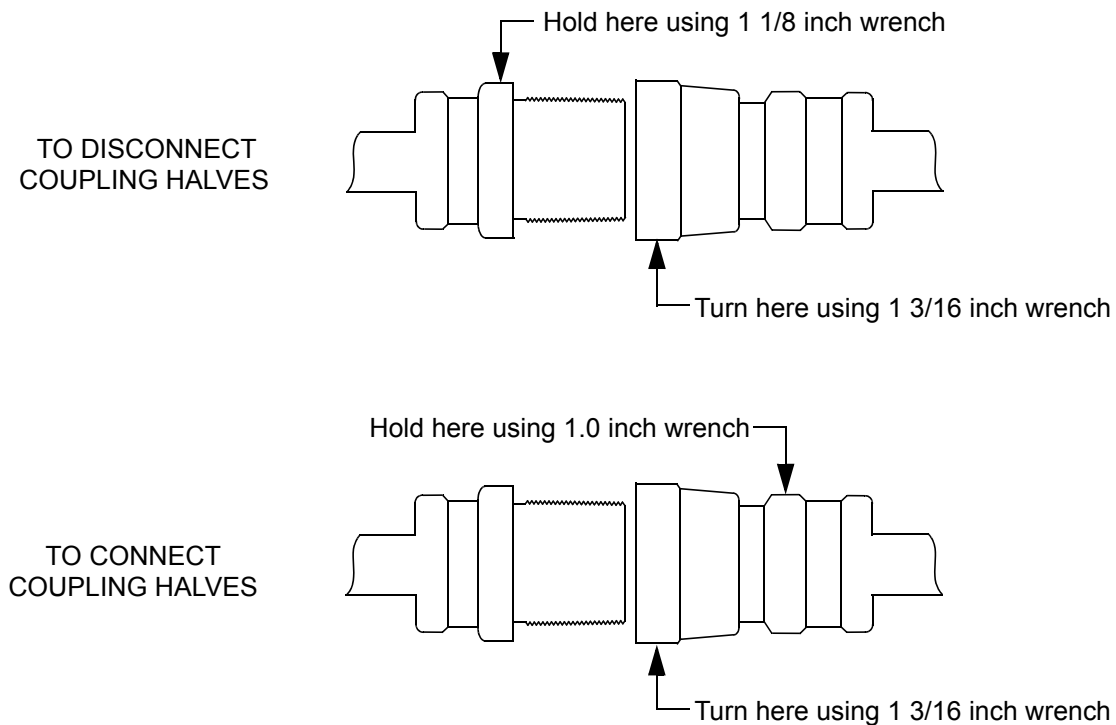

Figure 6-1: Disconnecting/Connecting Self Sealing Couplings
NOTE: Use two wrenches in Step 3 to prevent loosening the body of the coupling. See Figure 6-1.
8. Using two wrenches (see Figure 6-1), connect the two self sealing couplings on each adsorber.